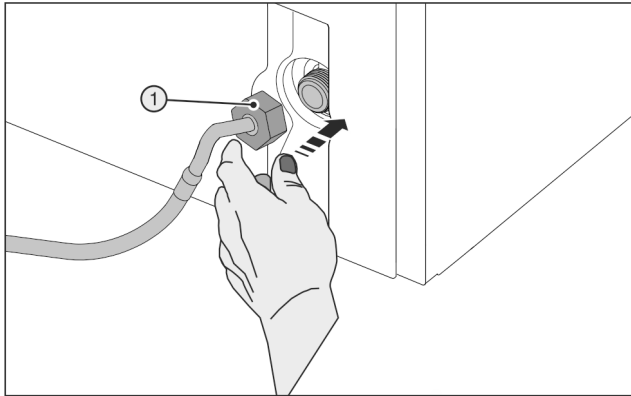

Fig. 28
- ▶ Carefully attach the nut Fig. 28 (1) and screw straight onto the thread.
- ▶ Carefully attach the nut Fig. 28 (1) and use both fingers to screw straight onto the thread so it sits firmly.
- ▶ Use the tool (5) only at room temperature.
- ▶ Tighten the nut Fig. 28 (1) with an auxiliary tool (5) to the maximum torque and until the tool (5) is overtorqued.